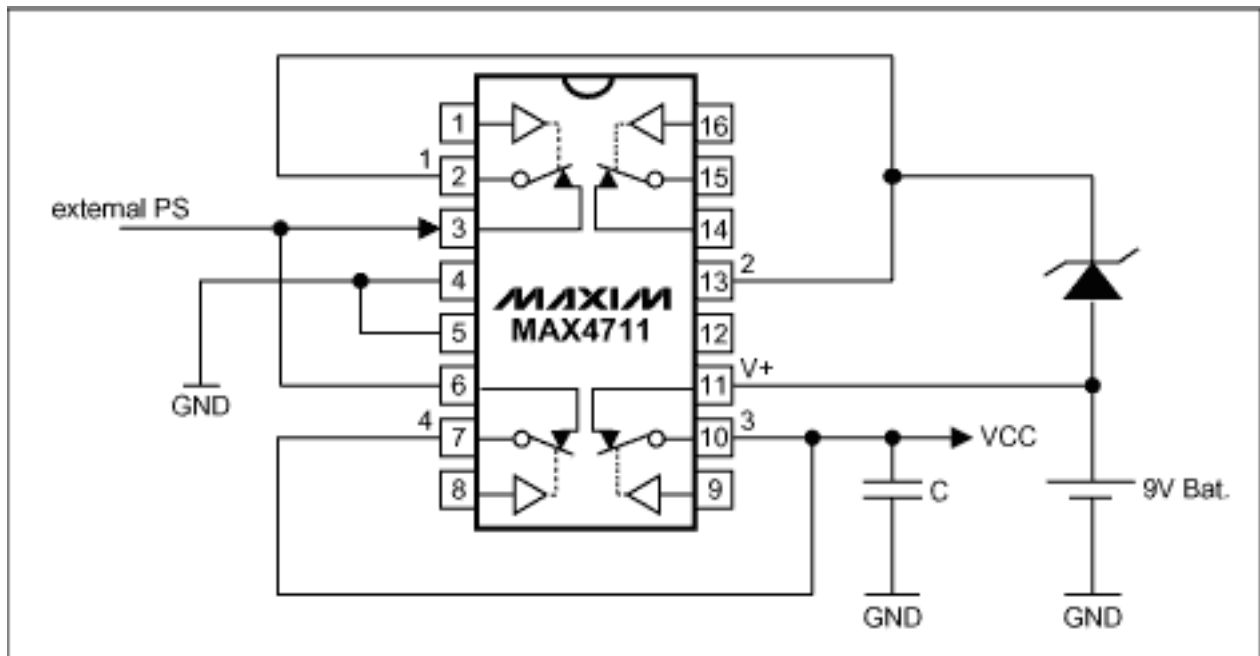

Figure 8. Battery switch off when external power supply is present.
The low-voltage fault-protected switch in Figure 8 switches off the internal supply via a 9V battery (or two lithium coin cells in series, etc.) when it detects an external supply such as a wallcube (PS). Normally, the switch is supplied by the battery at pin 13. A low-voltage Schottky diode protects the non-rechargeable battery from being charged when an external supply is connected.